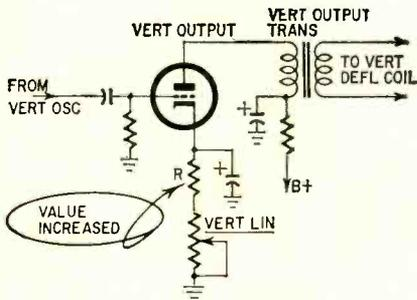

Fig. 9—Insufficient vertical deflection was caused by a resistor increasing in value.
**Conclusion:** Trouble in vertical output stage. Checking proved that resistor R in series with the vertical linearity control in the cathode circuit had increased to a high value (Fig. 9). Replacement cured the trouble.